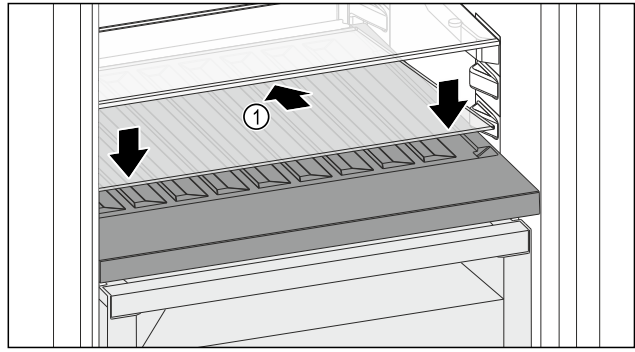

Fig. 100
- ▶ Place the glass shelf Fig. 100 (1) at an angle, sloping it downwards and backwards.
- ▶ Lower the glass shelf Fig. 100 (1) at the front.